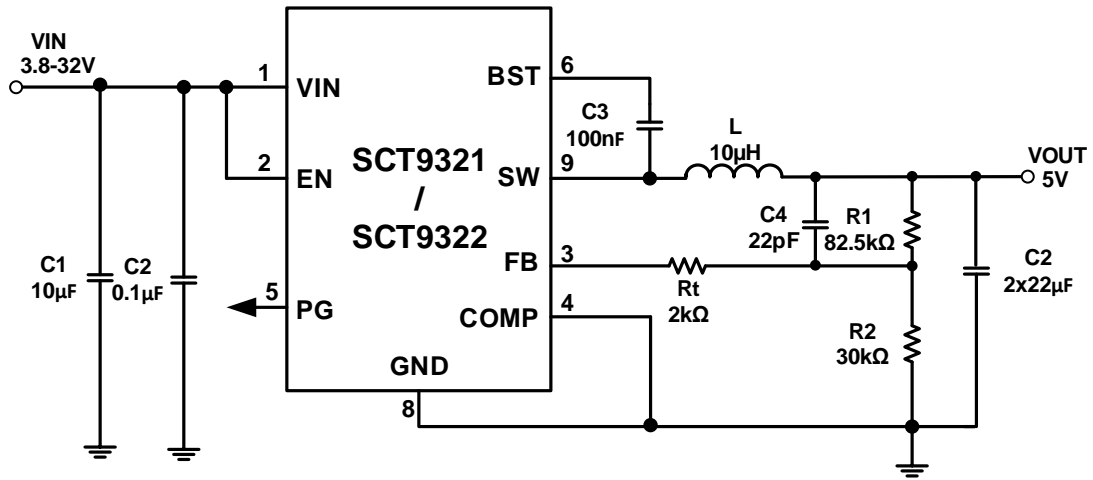

Figure 11. 24V Input, 5V/2A Output
The SCT9321/SCT9322 features external programmable output voltage by using a resistor divider network R1 and R2 as shown in the typical application circuit Figure11. Use equation (11) to calculate the resistor divider values.